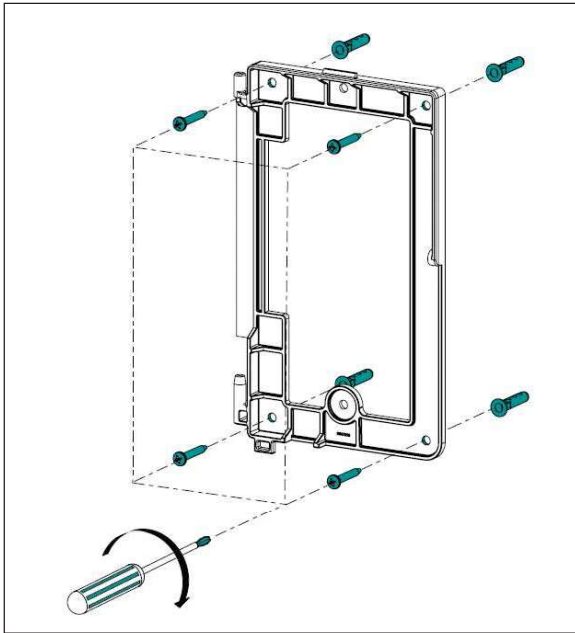

Figure 2. Alternate installation of the VersiCharge mounting
4. Alternate installation (Figure 2, Section 2.3): Drill pilot holes and use the fifth wallboard screw with anchor to screw into the wall.